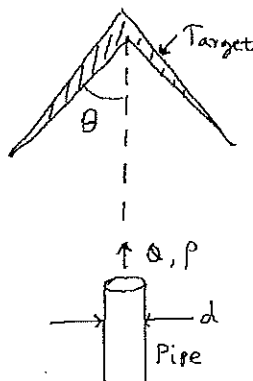

Figure 6
6) A student measures the force exerted by a jet of water on a conical target. The student uses the arrangement shown in Figure 6, where the target is directly above a pipe. The half-angle of the target is θ , as shown in the figure. 00146